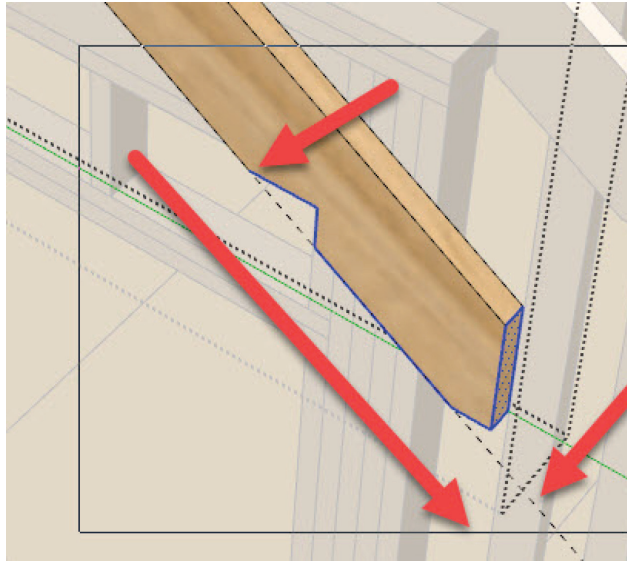

Figure 13.26 Add Guideline to Control Move.
Next, I'll make a copy of the first rafter and place it on center toward the other side. I can use this copy to edit it to become the next rafter size for the section sitting atop the adjacent 11' 9 $\frac{1}{2}$ " wall. Use Move/Copy + and move the copy along the red axis and type in 16 Enter. Of course you know that this new copy is a component, right? So, I cannot edit this rafter until I make it unique. After I make the copy, I right-click on the new rafter and Make Unique. Now I can edit this rafter to sit atop the wall. There are a few ways of doing this, but I prefer to edit (double-click) the new component, then select the entire bottom of the rafter to include the seat cut (hold down left mouse button and drag downwards from left to right to select all of the faces and edges that make up the bottom of the rafter). A little trick is to add a guideline to the bottom of the rafter as shown in Figure 13.26.
Next, with the selected faces and edges highlighted in blue, I use (M) and pick the corner of the seat cut where it intersects the inside of the wall (as shown in Figure 13.26) and start moving the bottom of the rafter up and along the guideline to the awaiting wall. I now have a new rafter and need to measure it and rename it. When you make a component unique, SketchUp keeps the name but adds #1 after it